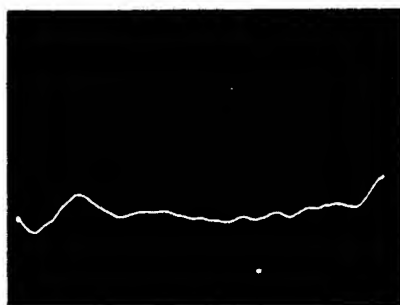

Figure 4-9. Typical Display
- j. Oscilloscope display should be similar to typical display shown in Figure 4-9.